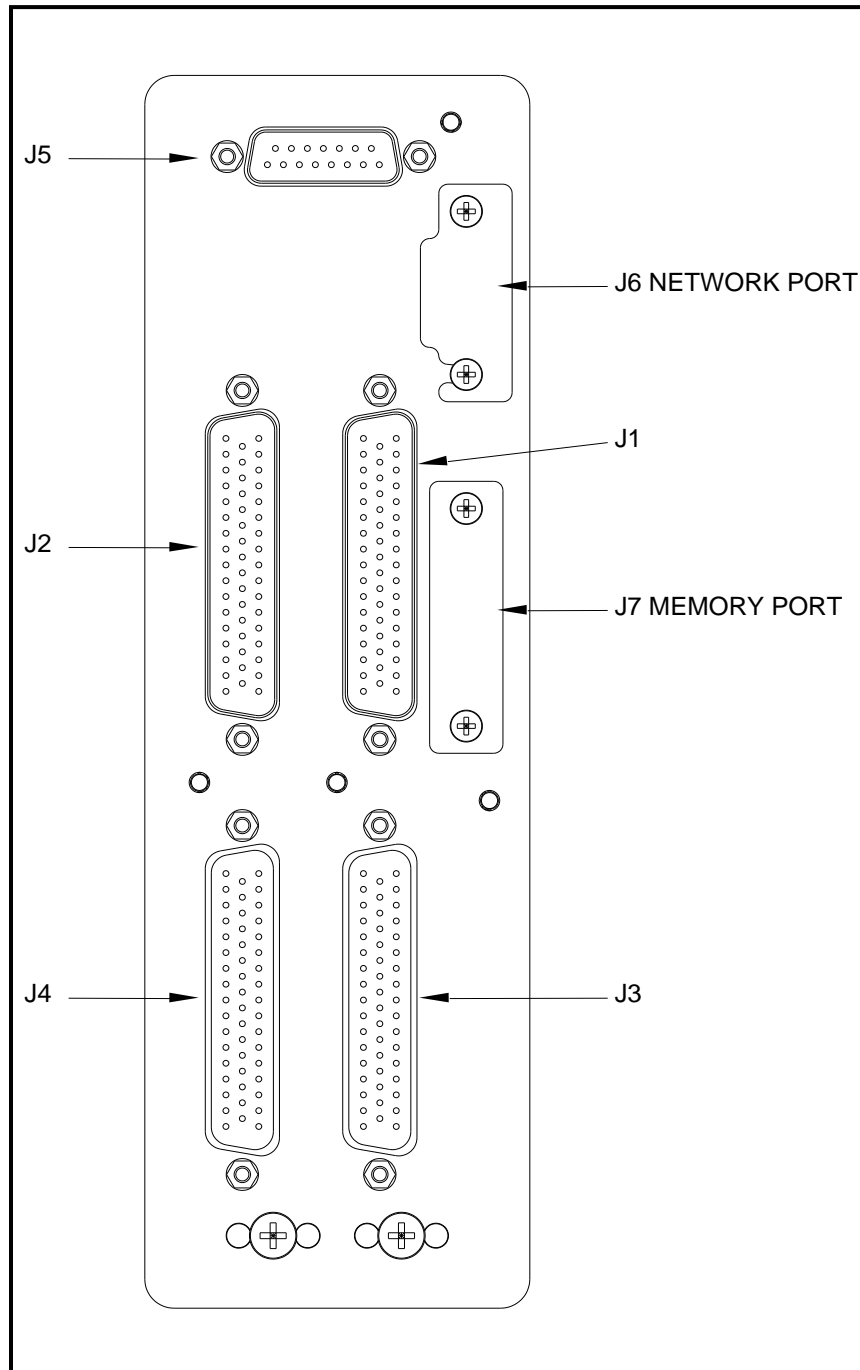
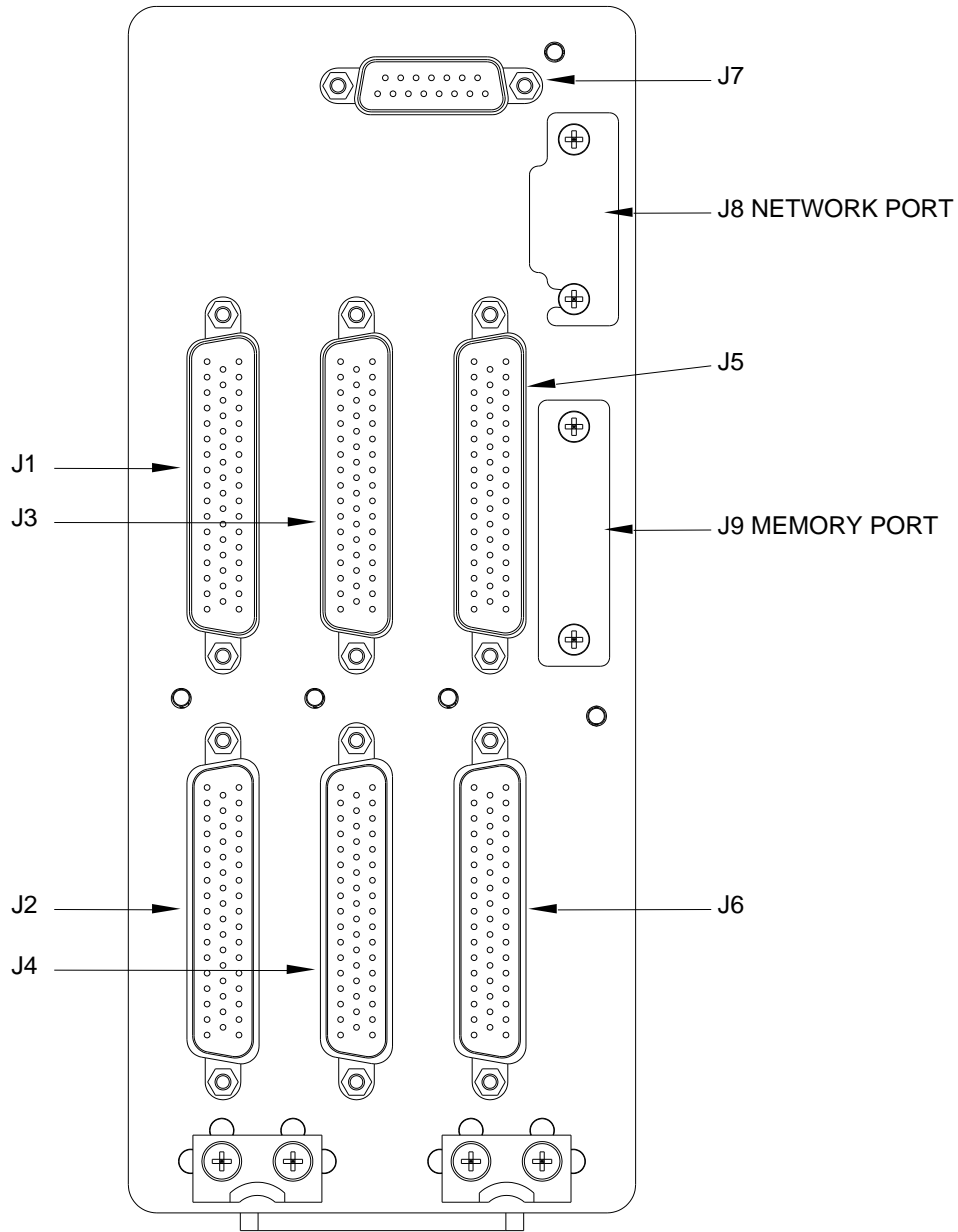

Figure 7: G13000 Digital Router Connector Layout
Figure 8: G13160 Digital Router Connector Layout
- b. Locate and install (4) #10-32 inserts (I/N 4) in accordance with Eurocopter Repair Manual.
- c. Mount Tray to shelf using (2) Shims and (4) MS24693S276 Screws.
- e. Reconnect all applicable cables to the Digital Router. Reference Figure 7 and Figure 8 for all Digital Router Connection Ports.